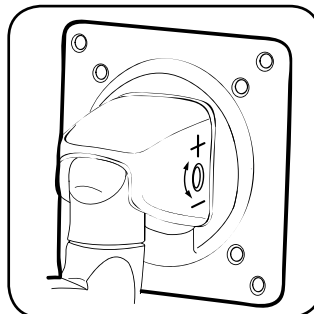

fig. 7.2
Adjust control bolt at top of arm assembly (B) with 4 mm allen wrench (K) as shown in figure 7.2.